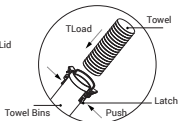

Figure 3
2. (Figure 3) Grasp the locks on both sides of the towel bucket, place the towels neatly inside the bucket, and release the locks.